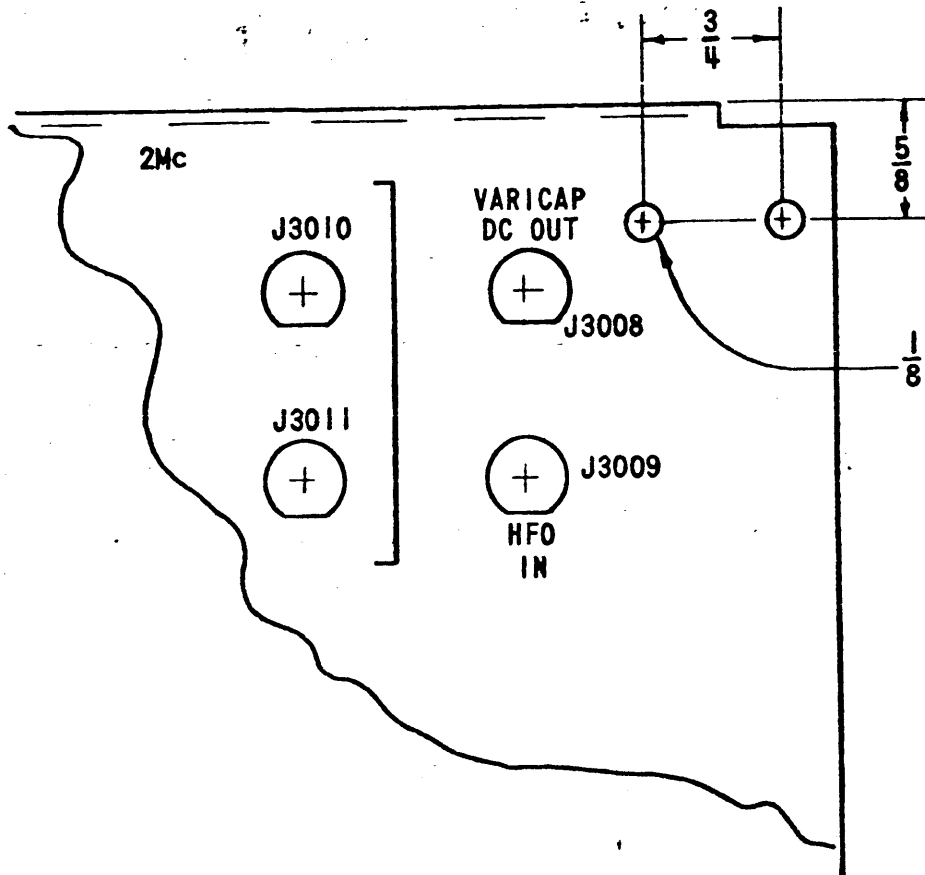

FIGURE 6
2. Drill a 1/8" hole using Item 48 as indicated in figure 6, and add a standoff insulator adjacent to J3008, (item 32,34,35)